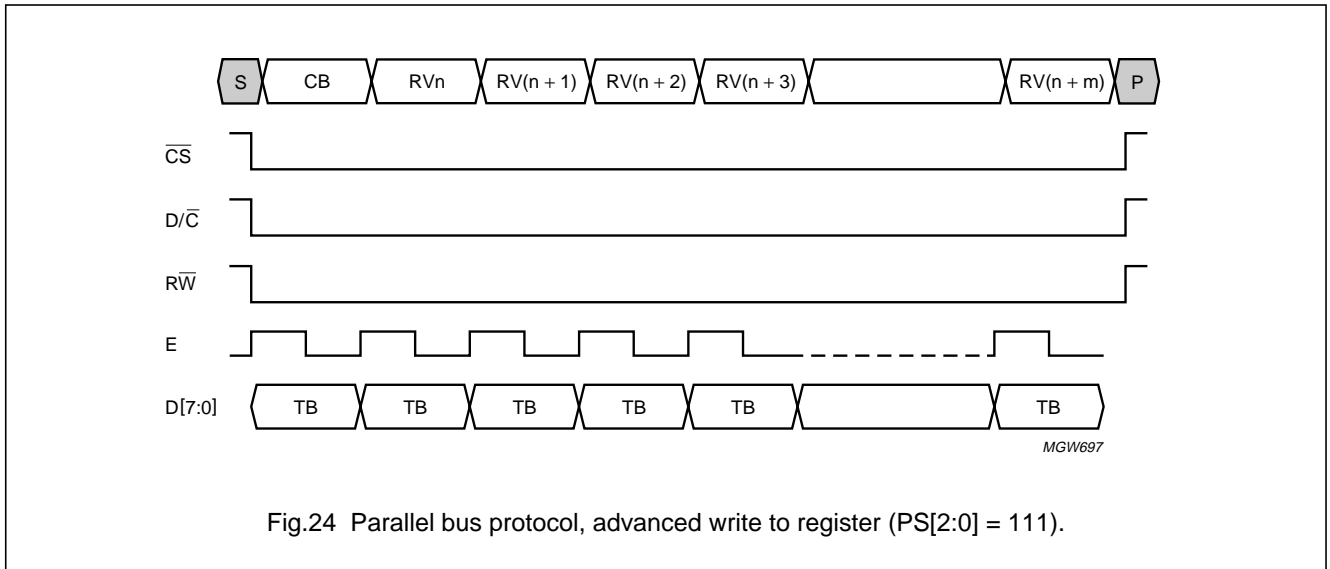

Fig.24 Parallel bus protocol, advanced write to register (PS[2:0] = 111).
The interface functions of the 6800-type parallel interface are shown in Table 19. Figures 24 to 29 show the data transfer in different modes. The transmission byte (TB)